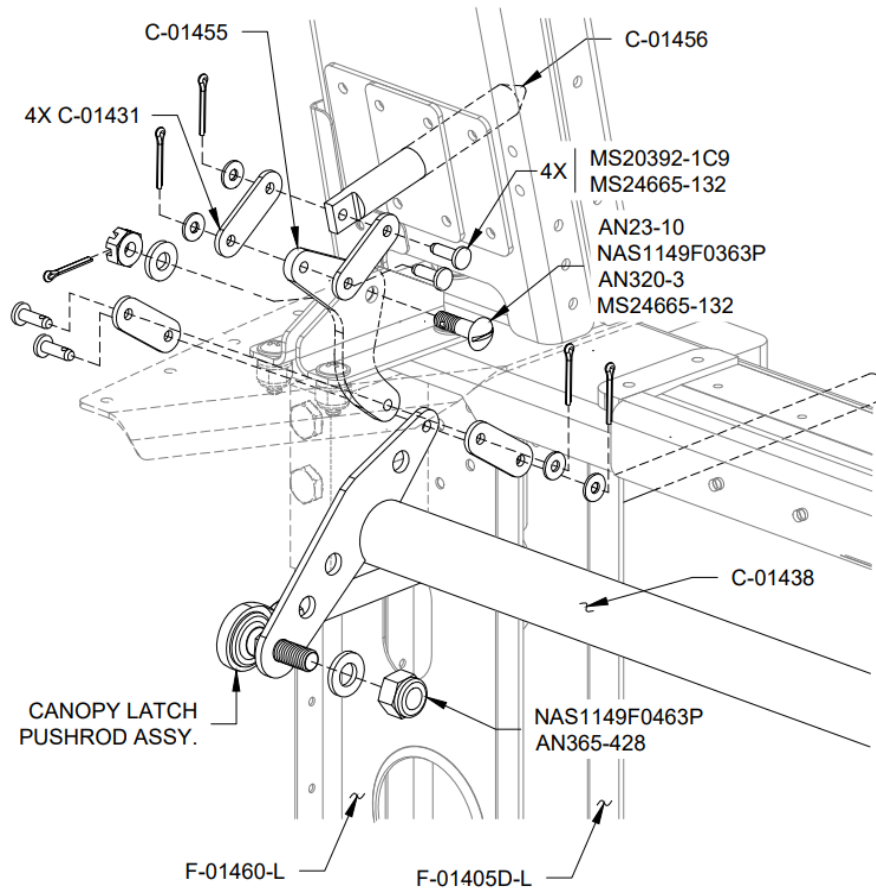
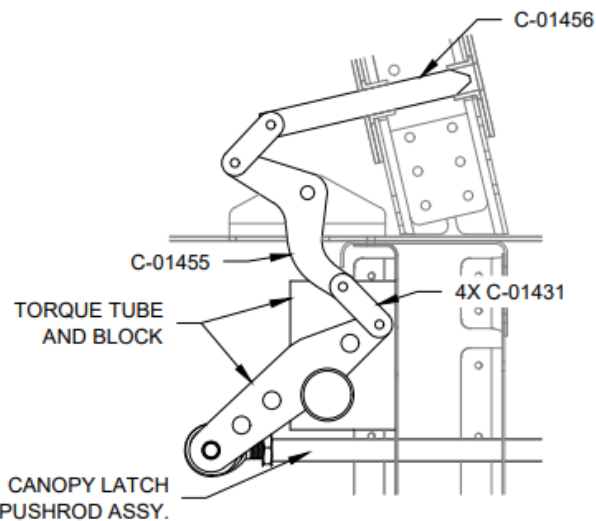

FIGURE 12: BELLCRANK ASSEMBLY
FIGURE 13: SECTION VIEW BELLCRANK ASSEMBLY
Step 13: Reassemble Torque Blocks, Torque Tube, Latch Bellcrank and Canopy Pin as shown in Figure 12 and Figure 13.